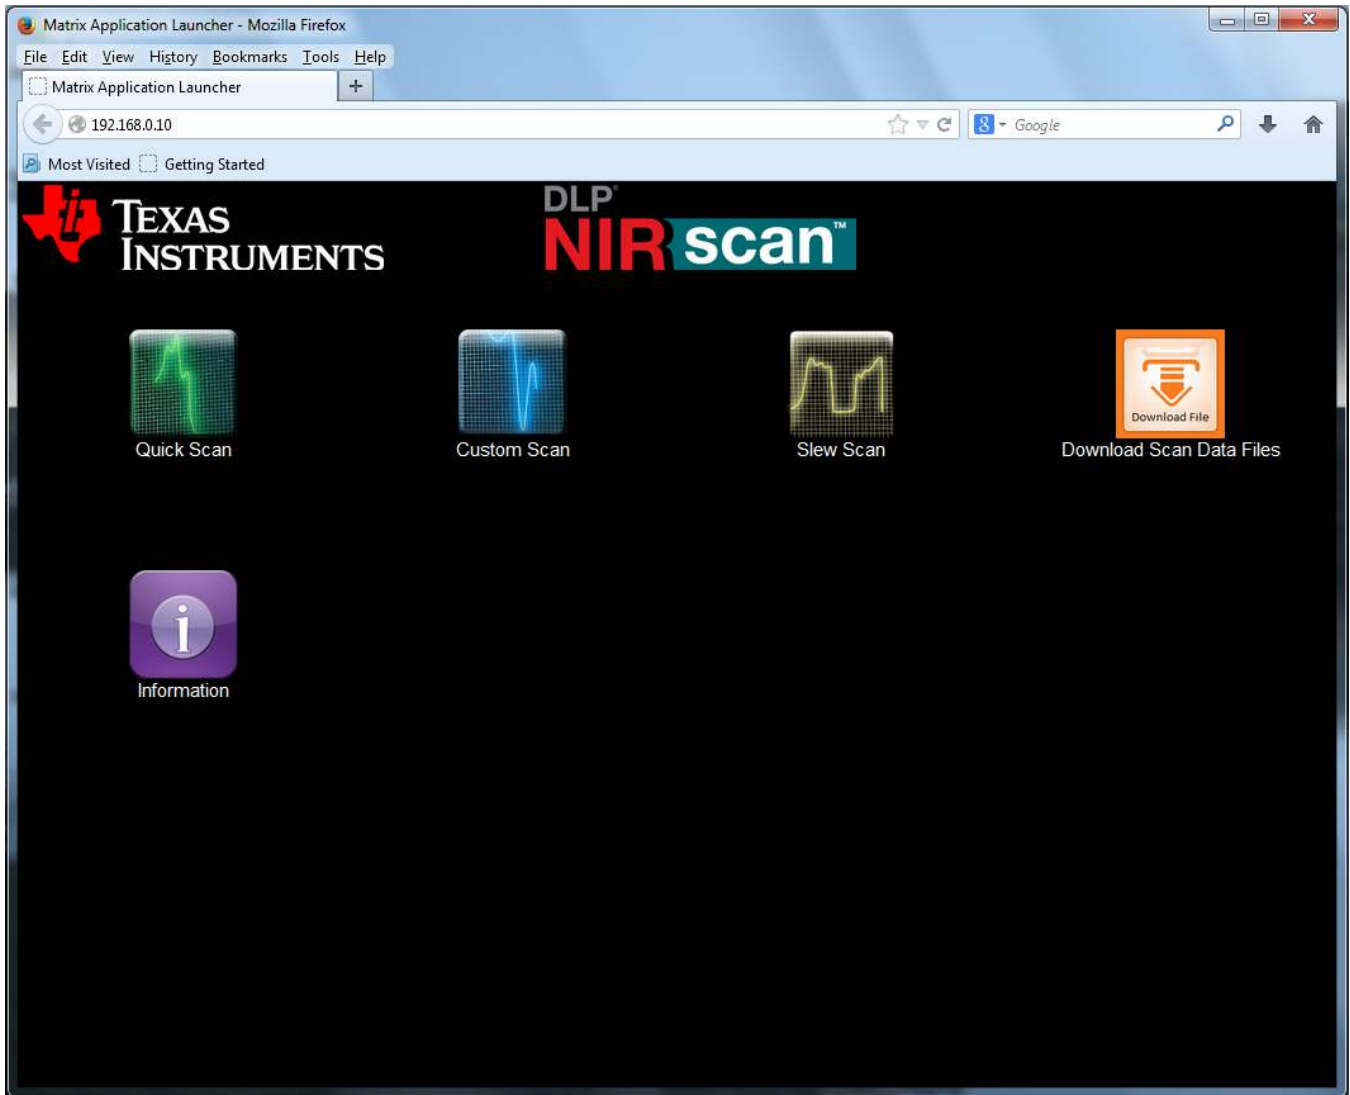

Figure 2-1. DLP NIRscan Homepage
6. When connected to the DLP NIRscan, the NIRscan Home Screen displays in the browser window (see Figure 2-1).